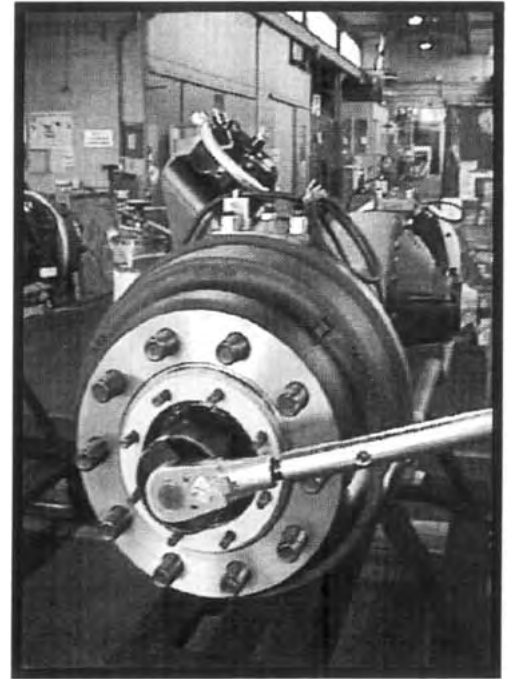

Figure 3
5. Torque the bearing adjusting nut to 50 lbs. ft. while simultaneously rotating the hub assembly. Loosen the nut and repeat this procedure 2-3 times to ensure that the bearings are seated properly. After the final tightening, back off the nut 1/4 turn. See Figure 3.